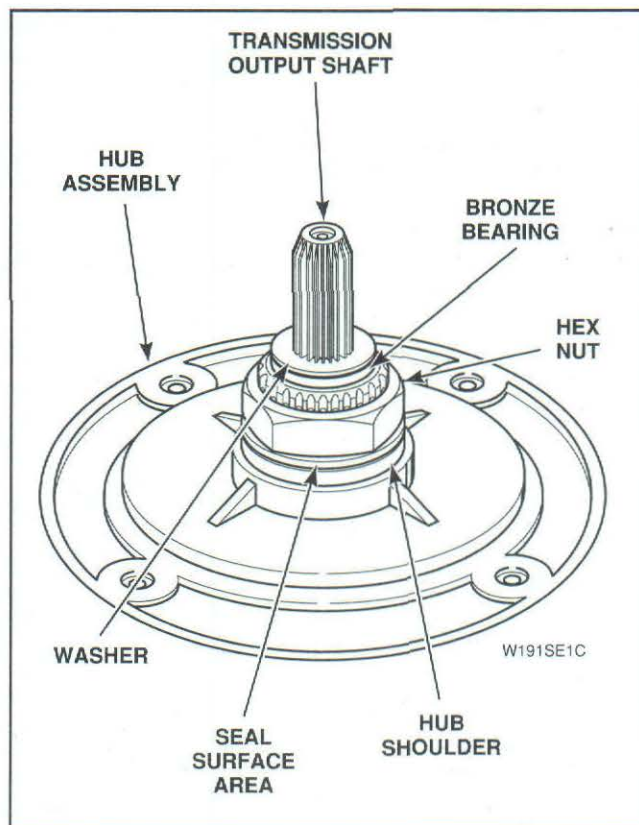

Figure 44
- i. Thoroughly clean any foreign material from seal surface area of hub and bronze bearing, *Figure 44*.